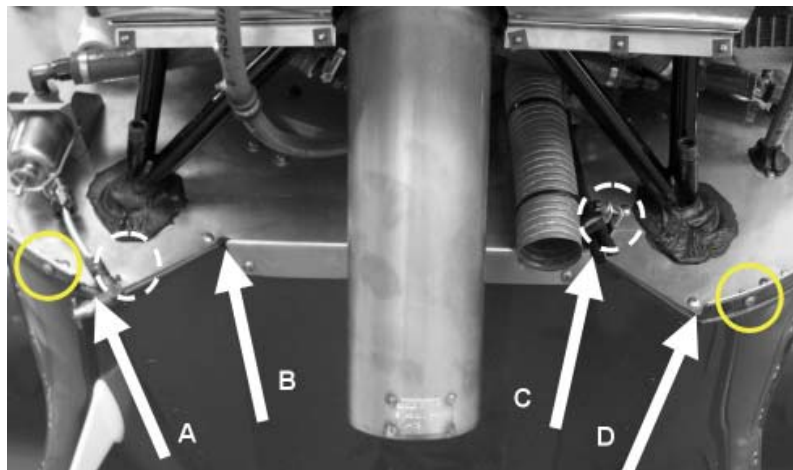

Figure 7 Forward View on Bottom Side Firewall
Position A and D of Figure 7, where different parts converge (firewall, aluminium profile, bottom fuselage cover and exhaust area covering sheet)
- 5 Install bottom cowling attachment screws (one on either side) without cowling present (see two outer circles in Figure 7).
- 8 Clean areas (from inside and outside) with solvents at four positions pointed out by the arrows in figure 7. Immediately thereafter, dry these areas with a new dry cloth.